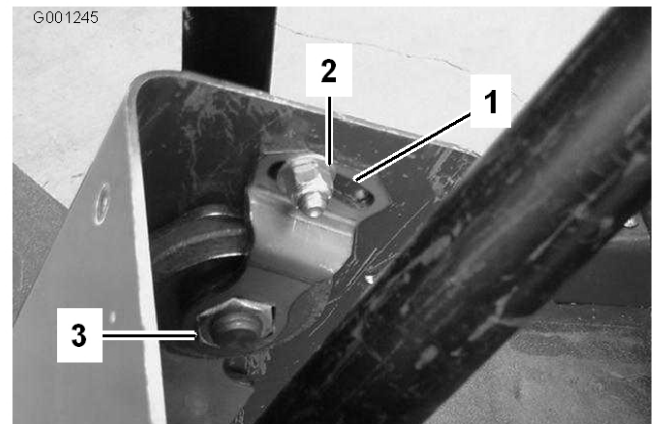

Figure 65
2. Slide the cover up the steering shaft to expose the pivot bracket (Figure 65).
3. Loosen the small nut, rotate the pivot bracket until it tightens the large nut below (Figure 65).